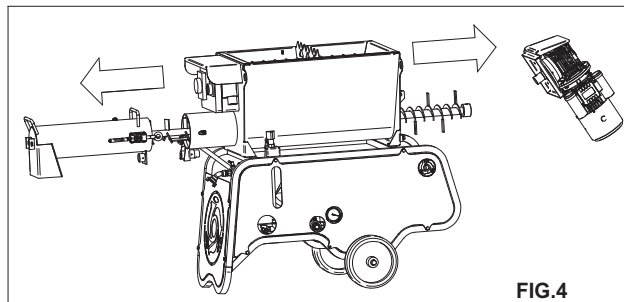

FIG.4
6. ELECTRIC SAFETY (see fig.4)
To facilitate transport, the machine can be disassembled as shown in fig.4